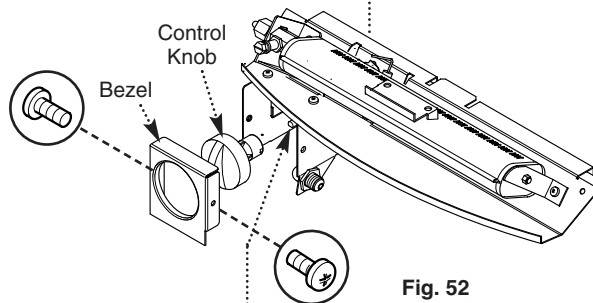

Fig. 52
2. Undo the two screws holding the bezel to the gas tap bracket. Remove the bezel and control knob (Fig. 52).